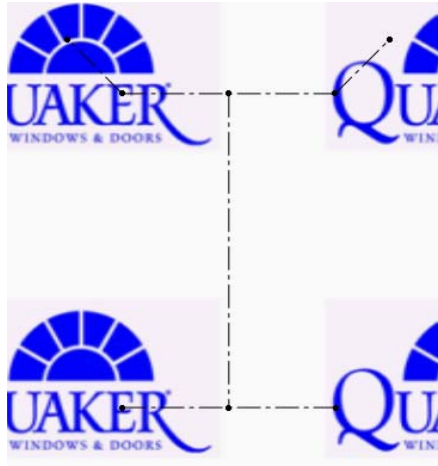

Fig. 2
- D. Cut the weather-resistant barrier (WRB) in a "1" pattern. (Fig. 2)
- E. Cut the top corners of the WRB at 135° and 9" long. (Fig. 2)